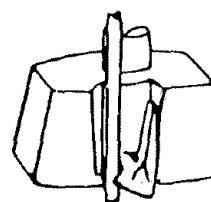
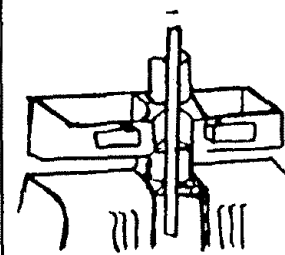

FIG. 6
FIG. 7
4. The motor cord, which goes from the switch box to the bottom of the unit, is attached in two (2) locations behind the dispenser at top and bottom. The upper part of the motor cord is snapped into place alongside the upper cord hook on the dispenser top (FIG.6). The lower part of the motor cord is snapped into place between the two lower cord hooks. They are located on the dispenser base (FIG.7).